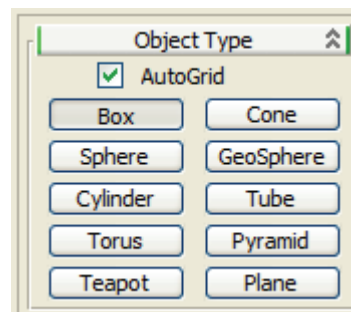

Figure 3–34
- You can also create objects in AutoGrid mode, which creates a temporary Grid aligned in 3D to the object directly under the crosshairs. The option to enable **AutoGrid** is located in the Create panel, in the Object Type rollout, as shown Figure 3–34 (AutoGrid is similar to the Dynamic UCS feature introduced in AutoCAD 2007). If you hold down <Alt>, the AutoGrid remains available for future use. If you use AutoGrid without any key pressed, the grid disappears after object creation.